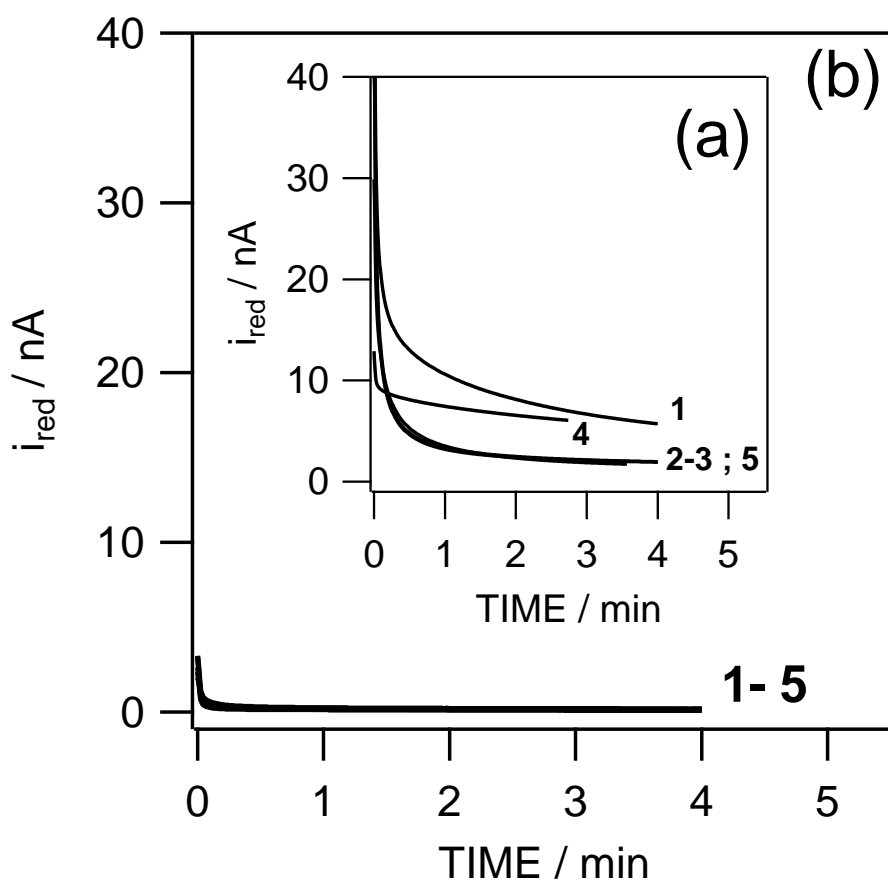

Fig. S2
**Fig. S2.** Consecutive chronoamperograms (1-5) on an IrM with a gold deposition layer obtained before (a) and after (b) the application of ten consecutive pulses (+800 mV, 50 ms) to oxidize/desorb impurities at the Iridium microdisk substrate.  $E_{\text{dep}} = -300$  mV; Solution: 0.1 M  $\text{NaNO}_3$ ,  $\text{HNO}_3$  pH 2.